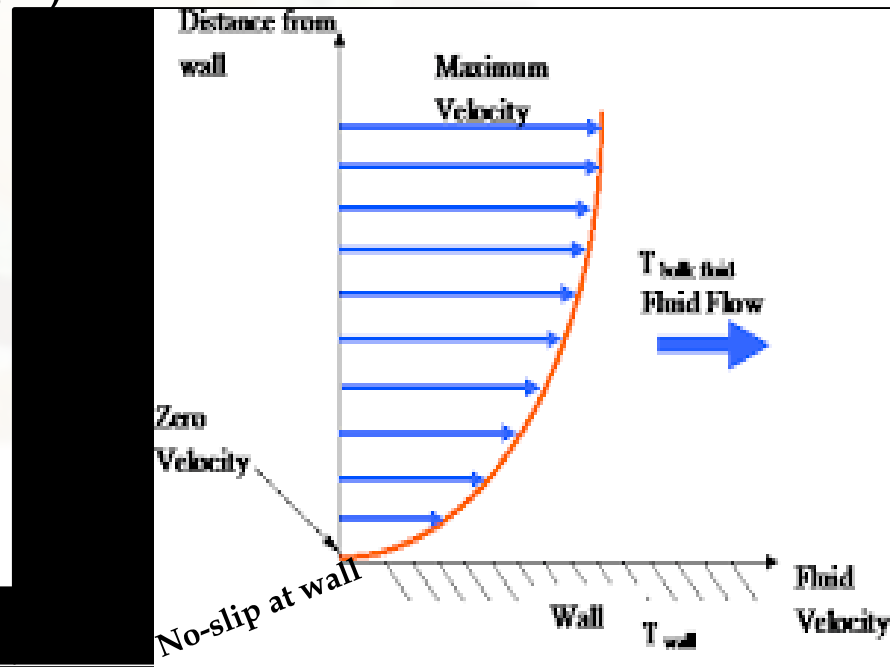

Fig 2: Velocity Profile of Boundary Layer
- The region adjacent to the wall where this viscous effect is significant is called the **boundary layer** (Fig 2).
- Similarly, a thermal boundary layer develops as shown in Fig 2.